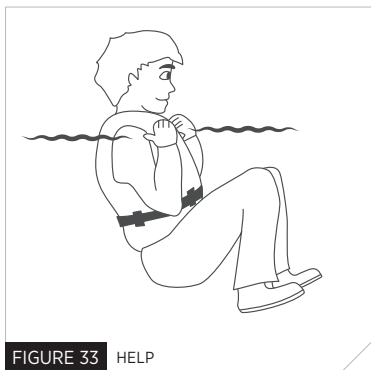

FIGURE 33 HELP
3. Use the standard Heat Escape Lessening Position (HELP) when wearing a PFD, drawing the legs up to a seated position, because doing so will help you conserve body heat (Fig. 33).